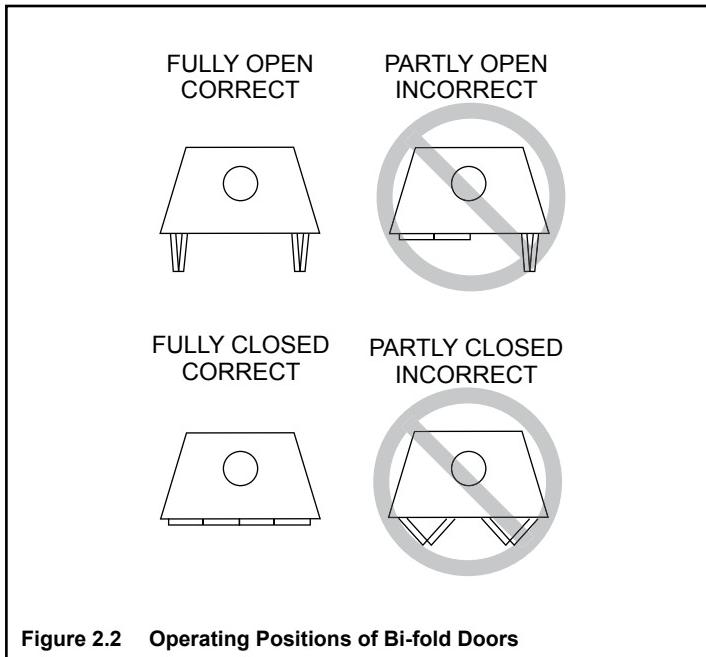

Figure 2.2 Operating Positions of Bi-fold Doors
- Refer to Figure 2.2 for proper use.